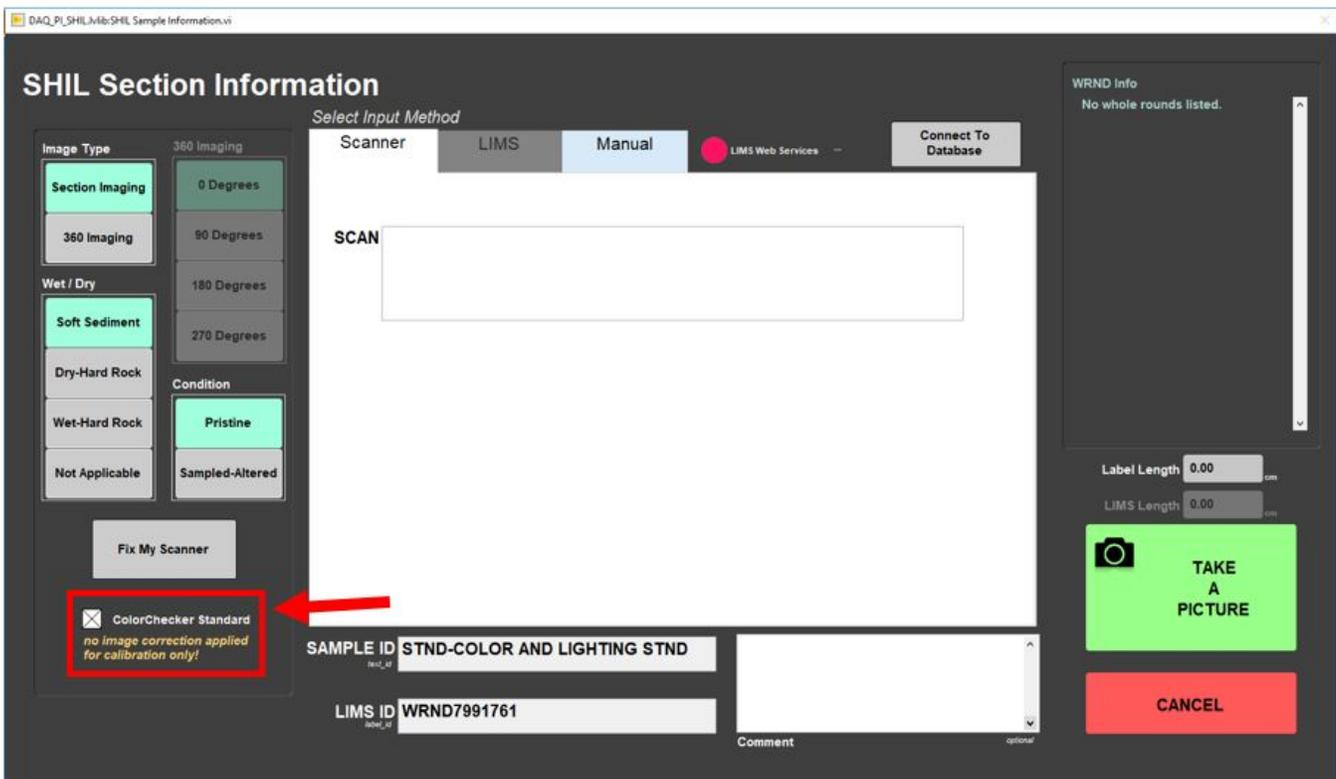

Figure 40. Color Checker box outlined in red and selected
3. In the Sample Information window, check the box for Color Checker Standard (Figure 40). Checking this box produces an uncorrected image. Click back in the Sample Information bar and scan the Color Checker Label mounted on the track behind the computer.